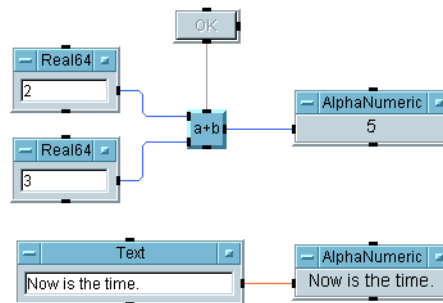

**Figure 8-5. A Program with Two Parallel Threads**
- **Threads** – Objects connected through data and sequence lines, which are solid, form a thread. Objects connected only through control lines, which are dashed, are not considered to be in a thread. A program can contain several threads. For example, the program in Figure 8-5 contains two parallel threads. The threads are independent because they are not connected by data or sequence lines.